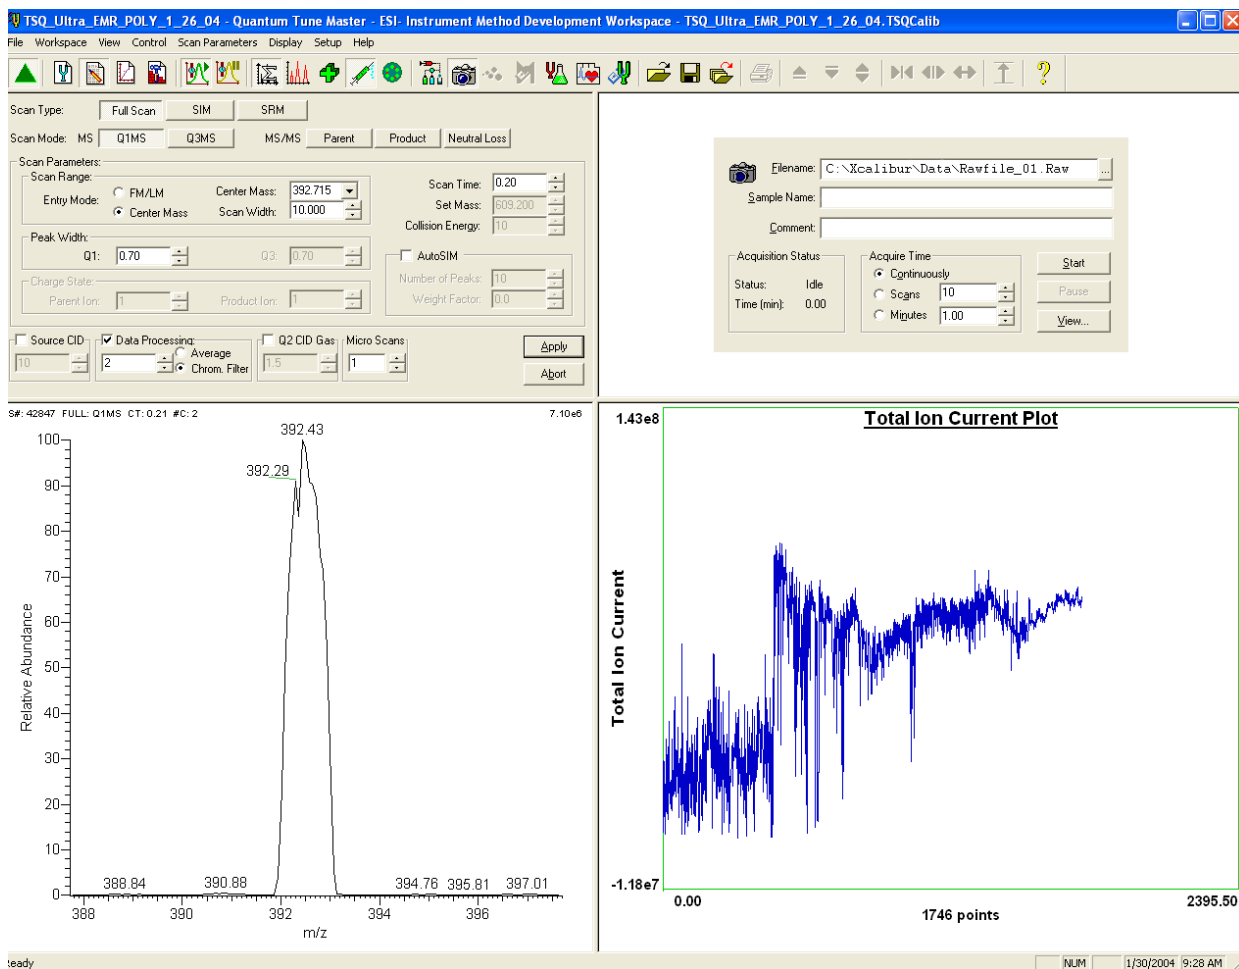

Figure 3-6. Instrument Method Development workspace
- a. In Tune Master, on the Control / Scan Mode toolbar, click on the Instrument Method Development Workspace button to display the Instrument Method Development workspace. See Figure 3-6.